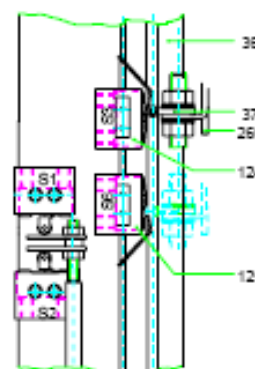

Figure A2: Schema of WE-switches
- With WE-switches S3 and S6 built on DE-mounting angles slide the contact piece [37] (see figure A2) over the threaded lug; the switch finger must herewith be rectangular to the mounting angle